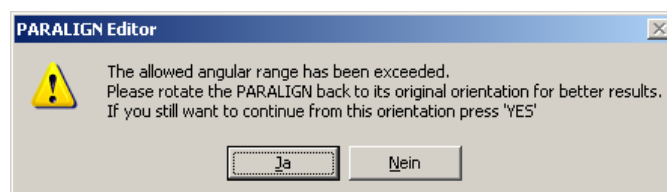

Figure 51a
- “Angle out of range” the Laptop speaker alerts if the PARALIGN is moved over a large angle from the calibration position. A pop up message also appears to warn the user.(Figure 51a)